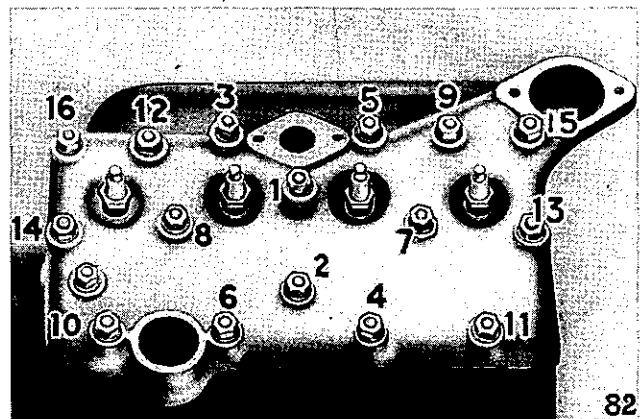

Fig. 31. Showing order for tightening cylinder head nuts.
6. When fitting the cylinder head and tightening down the holding nuts, these should be tightened progressively and in the order indicated in Fig. 31.
4. When refitting combustion head securing nuts, regard sequence indicated in Fig. 31. Tightening these progressively. Failure to tighten holding nuts symmetrically may cause distortion of the cylinder head.